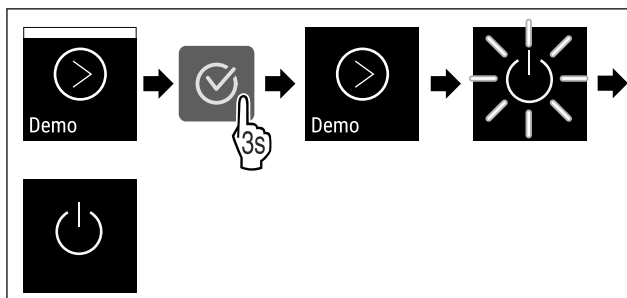

Fig. 101
- ▶ Complete steps (see Fig. 101) .